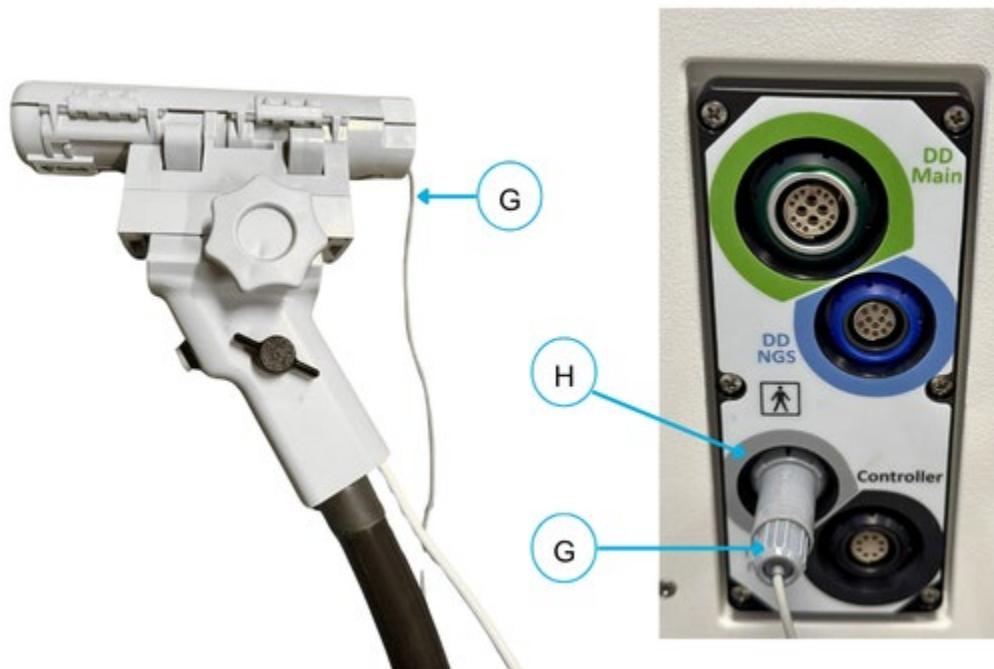

Figure 10-30: TRUS Cradle NGS Connection to Generator
7. Locate the gray port (**H**) labeled "TRUS NGS" on the Generator (**Figure 10-30**).